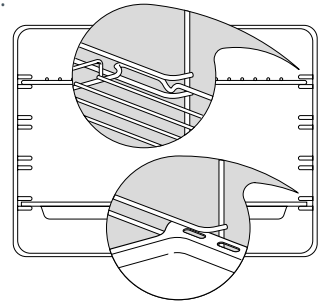

Fig. 22 Correct position of shelves and pan
- Slide in the shelves and grill pan as shown in Fig. 22. Fit them between the metal runners, with the safety stop notch down and at the back. (If the shelf supports and catalytic panels are not already fitted, see 'Care and cleaning' for how to do this).